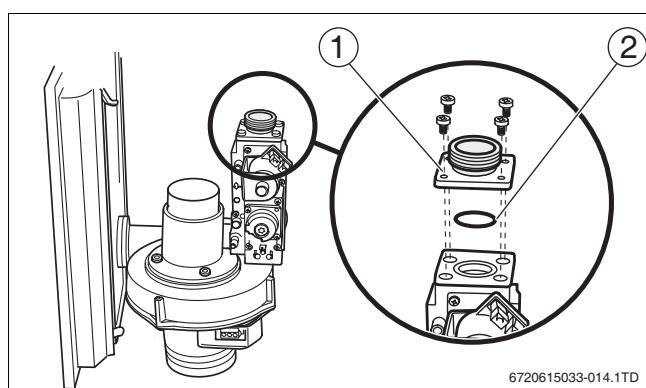

Fig. 10 Installing the gas flange
- Install the gas flange from the natural gas assembly on the new gas valve (→ fig. 10, [1]), insert the O-ring (→ fig. 10, [2]) supplied.